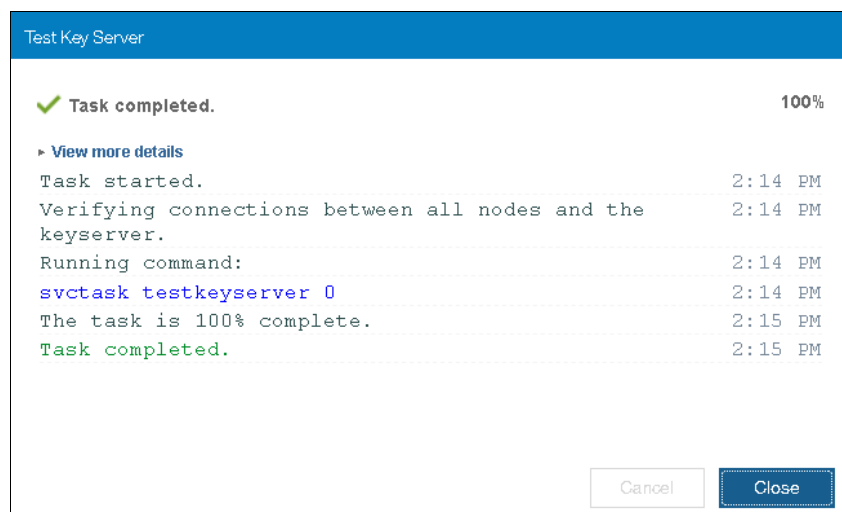

Figure 7-72 Key server test complete
3. When the key server test is complete, click **Close** (see Figure 7-72).